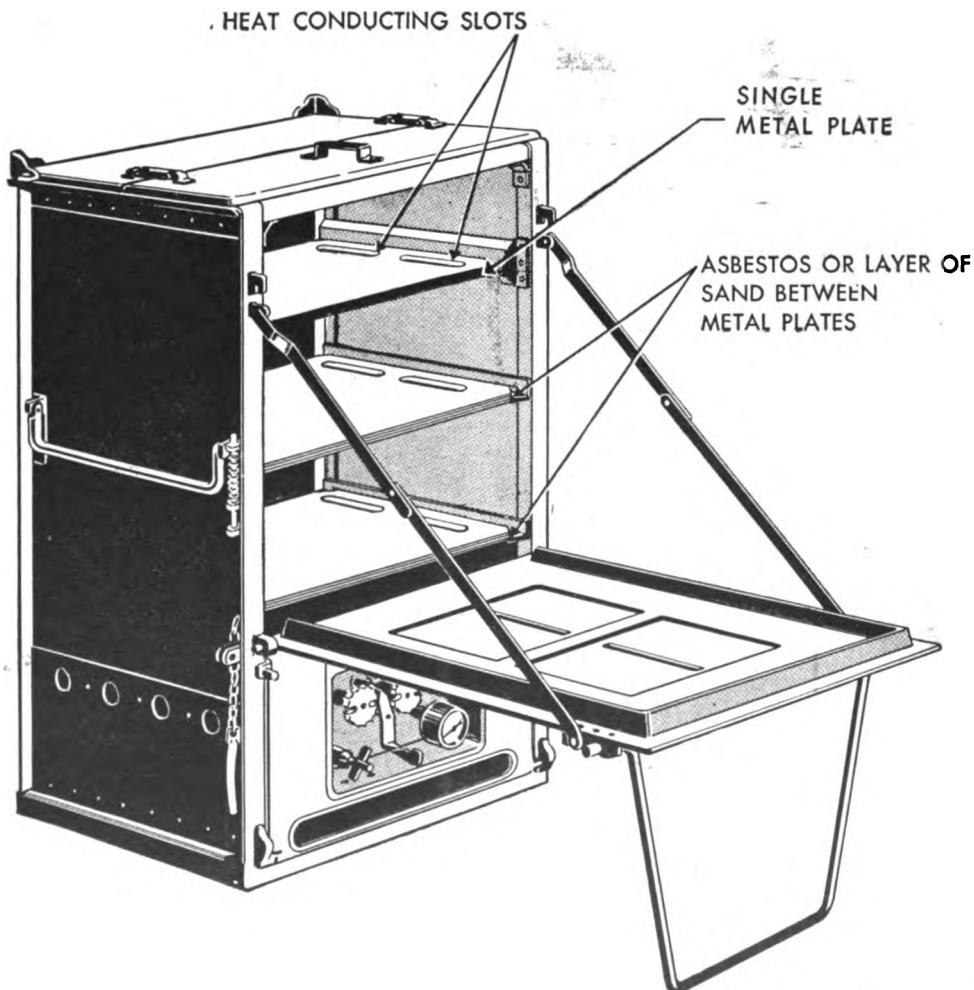

Figure 37. Range, field, M1937, adapted for baking bread.
a. METHOD NO. 1. (BREAD AND PASTRY). (1) The most satisfactory method of adapting the range for baking bread is to construct three solid shelves and fit them to the rails in the range. (See fig. 37). This method triples the ordinary baking capacity of the range.
the side and $1\frac{1}{4}$ inches from the ends. Cut the front corners $1\frac{1}{2}$ inches from front and side, as illustrated in figure 37.